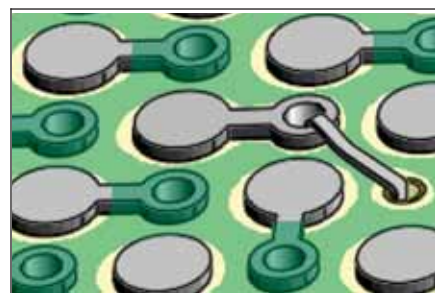

Figure 2 Insert a copper foil jumper into the plated hole and Teflon sleeve.
9. Insert one end of the foil jumper into the plated hole connected to the BGA pad. Insert the opposite end through the Teflon sleeve. (See Figure 2.)